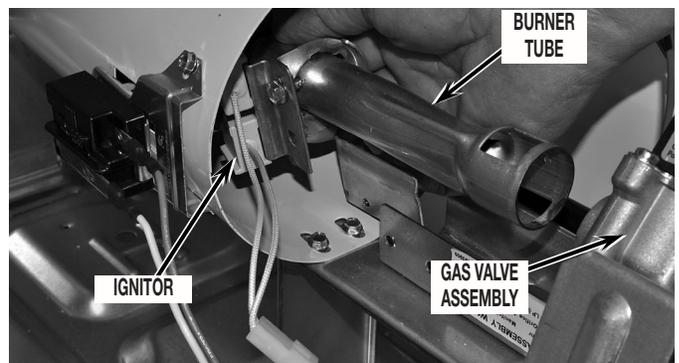

FIGURE 2
2. Slide burner tube forward far enough to gain access to orifice. Do not bump ignitor. See Figure 2.